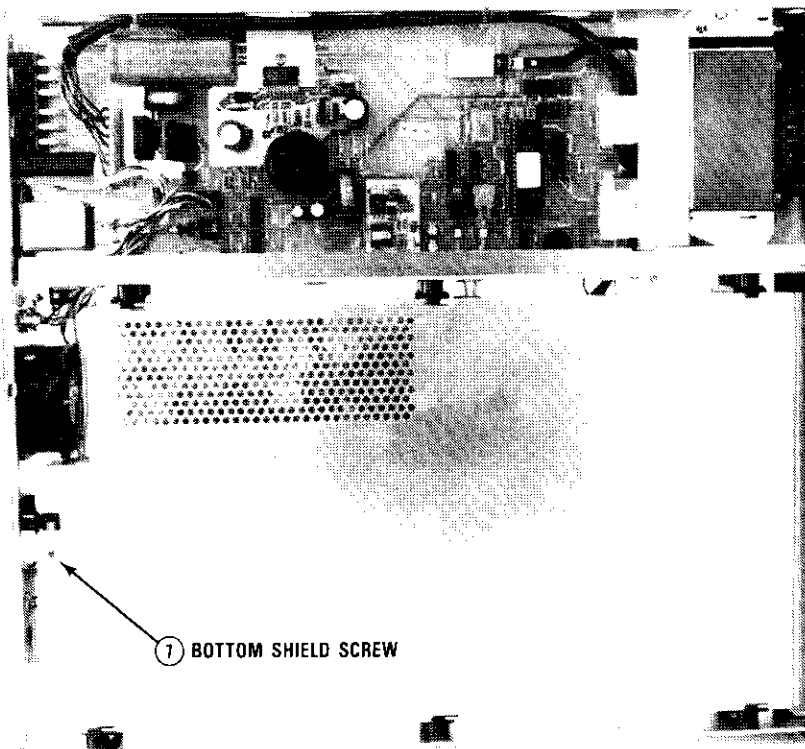

Figure C-5. HP 3458 Inside Bottom View
1. Refer to Figure C-5. Use the #TX10 Torx driver to remove the bottom shield screw. Then remove the shield. Pull the shield toward the rear of the instrument until the shield retainers line up with the slots in the shield. Lift the shield off.
3. Refer to Figure C-5. Replace the bottom shield. Line up the slots on the shield with the shield retainers. Then push the shield toward the front of the instrument until the shield screw hole lines up with the screw hole in the chassis. Use the #TX10 Torx driver to reinstall the shield screw.